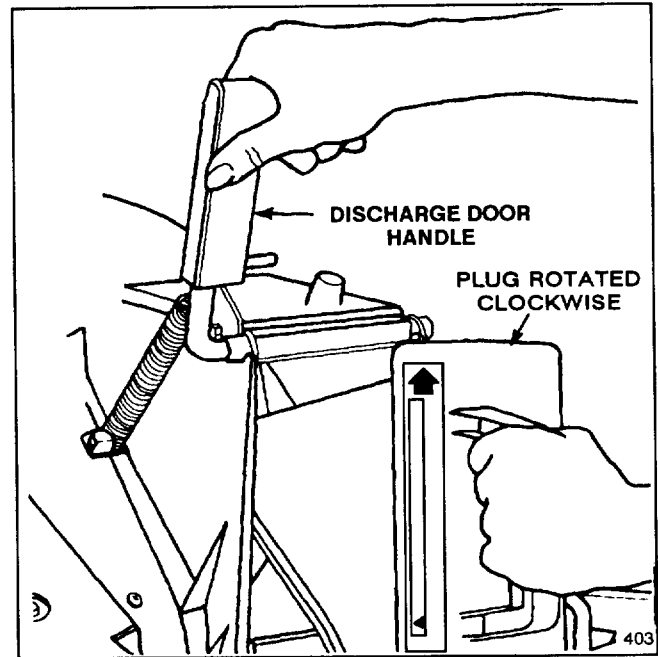

Figure 6
- Since the plug is slightly wider than the discharge tunnel opening, rotate the plug clockwise slightly while inserting it (Fig. 6). Make sure the arrow on the plug decal is pointing upwards.
- Open the discharge door by pulling forward on the handle and moving it rearwards (Fig. 6). Hold the discharge door handle to prevent the spring-loaded door from closing while inserting the plug.